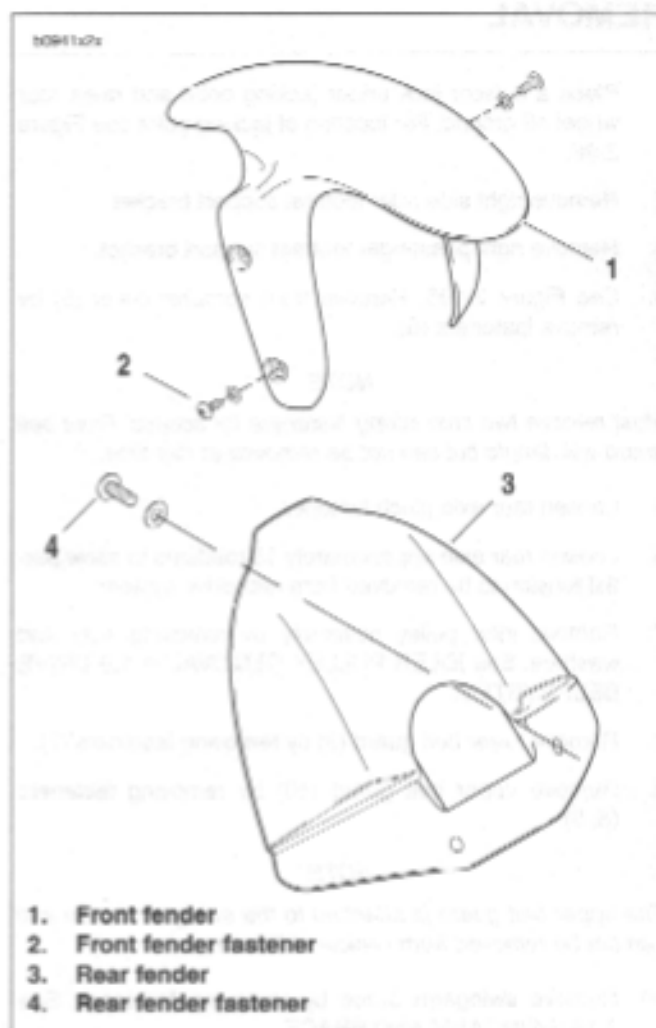

Figure 2-104. Front and Rear Fender
1. See Figure 2-104. Remove fasteners and washers (2) securing the front fender (1) to front forks.
2. Carefully remove front fender (1).
1. See Figure 2-104. Align front fender (1) to fender mounts on front forks.
2. Install front fender (1) with fasteners and washers (2) and tighten to 12-36 in-lbs (1-4 Nm).
2. See Figure 2-104. Remove fasteners and washers (4) securing the rear fender (3) to frame.
3. Remove rear fender (3).
1. See Figure 2-104. Align rear fender (3) to frame.
2. Install rear fender (3) with fasteners and washers (4). Tighten to 12-15 in-lbs (1-1.7 Nm).